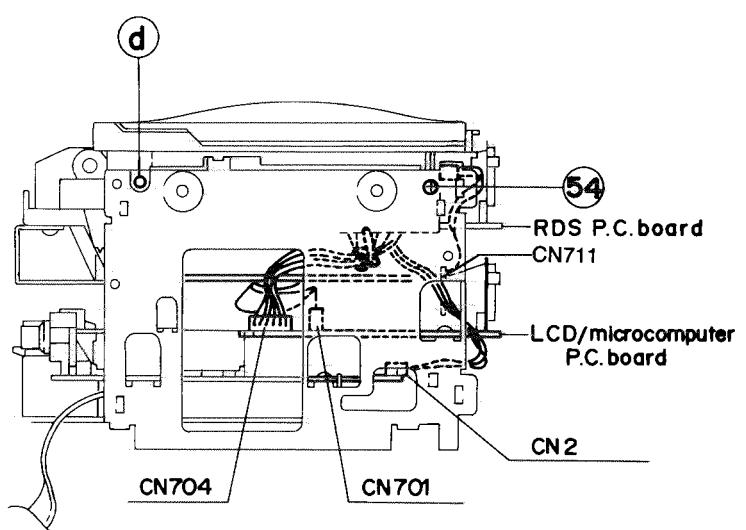

Fig. 7 - 14
■ LCD Microcomputer P.C. board (Fig. 7 – 15)
2. Remove the three screws (20) retaining the LCD/microcomputer P.C. board from the chassis.